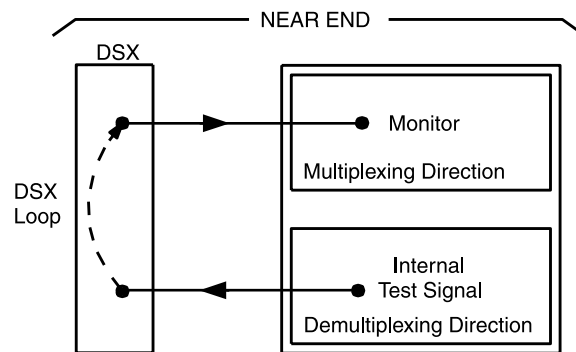

Figure 2 – Transmission Test of DS3 Signal in DEMUX Direction
9. See Figure 2. At the near-end DSX-3 cross-connection associated with the DDM-2000 being tested, connect a patch cord from the **OUT** jack to the **IN** jack for the DS3 channel to be tested.